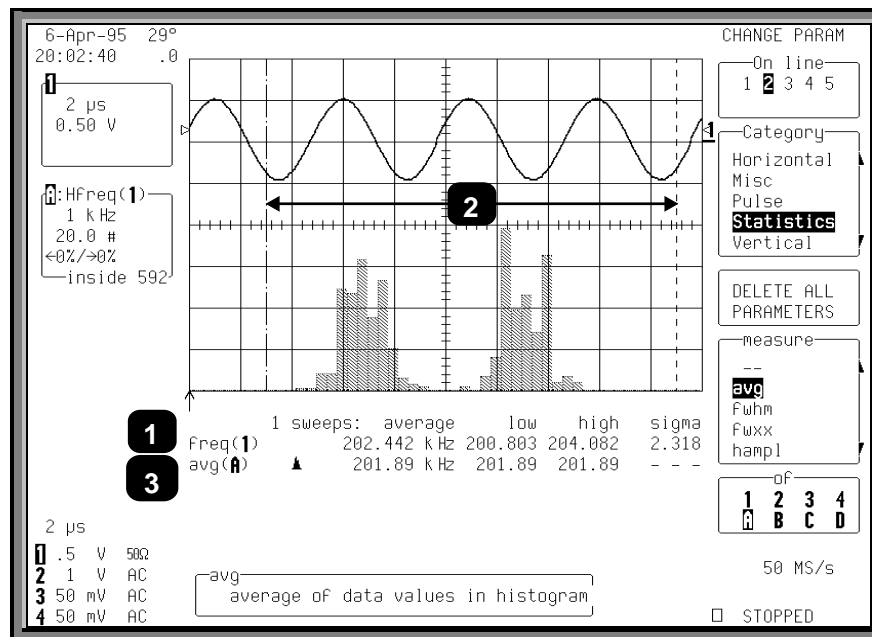

Figure 1.2
As shown in Figure 1.2, up to five parameters can now be selected, each displayed on its own line below the grid. Categories are provided for related groups of parameter measurements. The freq measure parameter from the “Cyclic” category for Trace 1, previously selected, is displayed on Line 1 as **freq(1)** (Item 1). The **avg** measure parameter from the “Statistics” category for Trace A is displayed on Line 2. This category provides histogram parameters, while avg offers the mean value of the underlying measurements for the Trace A histogram section within the parameter cursors (2), shown as “avg(A)” in 3. Additional parameter measurements can be selected from “Category” and “measure”. No parameters have been selected for Lines 3 to 5